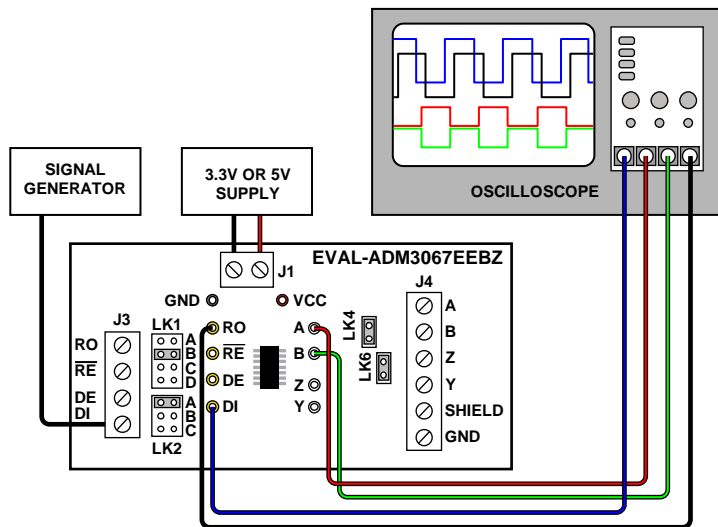

Figure 3. Full-Duplex RS-485 Loopback Test
For the EVAL-ADM3067EEBZ, a loopback test can be set up by closing the LK4 and LK6 jumpers. This test is shown in Figure 3. A signal generator is connected to the DI pin and this allows verification of the bus signals and the receiver output. Note the jumper positions of LK1 (B) and LK2 (A) for the EVAL-ADM3067EEBZ evaluation board. Ensure that LK3 and LK5 are also closed. In this configuration, the default termination resistors can be used, because both 120 Ω resistors on the board are connected in parallel by the loopback, ensuring that the test is conducted with a standard RS-485 load of 60 Ω (bus terminated at both ends by 120 Ω).